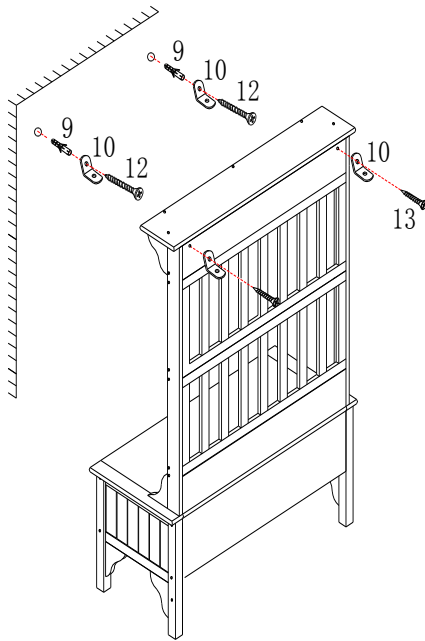

Figure 11
Attach two Brackets (10) to the back of Top panel (A) using Screws (13) as shown in Figure 11.
Mark two desired locations on the wall and drill two holes. Insert Wall Anchors (9) into holes in wall as shown in Figure 11. Use a hammer to insert Wall Anchors (9) until they are flush with wall.